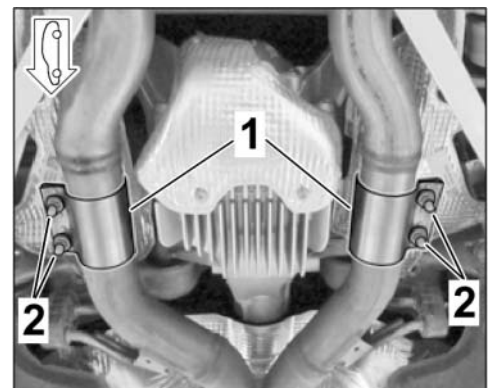

Figure 27
- 3.5.4 Align clamping sleeve Ø 65 x 88 (2 x) on exhaust pipe on front silencer/rear silencer (on the left/right) so that the clamping sleeve is not touching/rubbing at any point (⇒ *Figure 27*).